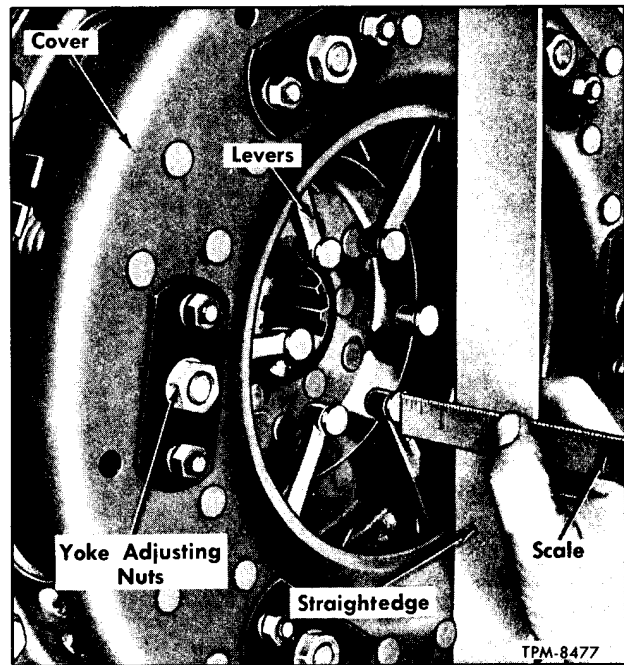

Figure 12—Checking Release Lever Button Position With Scale and Straight Edge
8. After performing the foregoing procedures, use straightedge and scale (fig. 12) to check position of release lever buttons (23). With unworn parts, the surface of release lever buttons must be $1\frac{3}{8}$ inches below cover surface. All levers must be in same plane within 0.030 inch. Position of levers can be changed by turning yoke adjusting nuts as required. Be sure to stake nut to yoke after making adjustment.